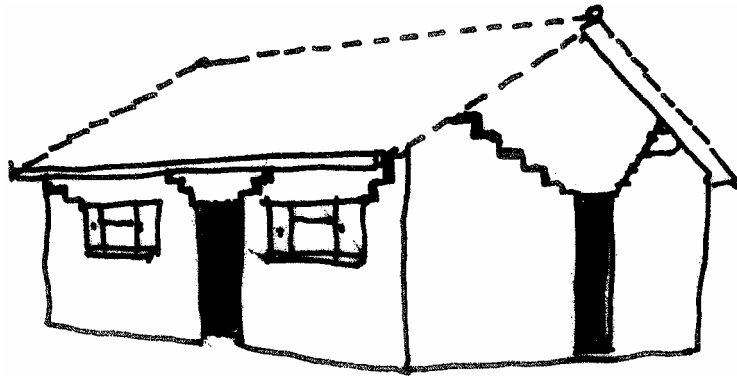

Figure 7.3 – Seal cracks in exterior walls
- ❖ **Remove the cause of cracking as far as possible, moisten the contact surfaces and apply foamed polyurethane according to the manufacturer's instructions into both inside and outside of cracks inserting the nozzle into the crack. Cut the dried foam back to the wall surface and make good with the surface treatment of the adjacent wall finish.** *Fig7.3*